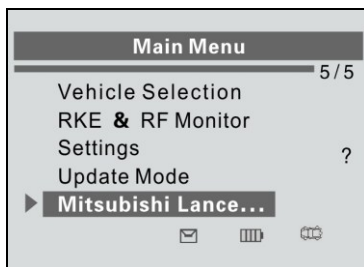

Figure 4.14
- 1) Use the **UP/DOWN SCROLL** button to select **Latest Scan** (In our example, this is **Mitsubishi Lance**) from **Main Menu** (Figure 4.14), place the device alongside the valve stem and press the **Y** button to confirm.